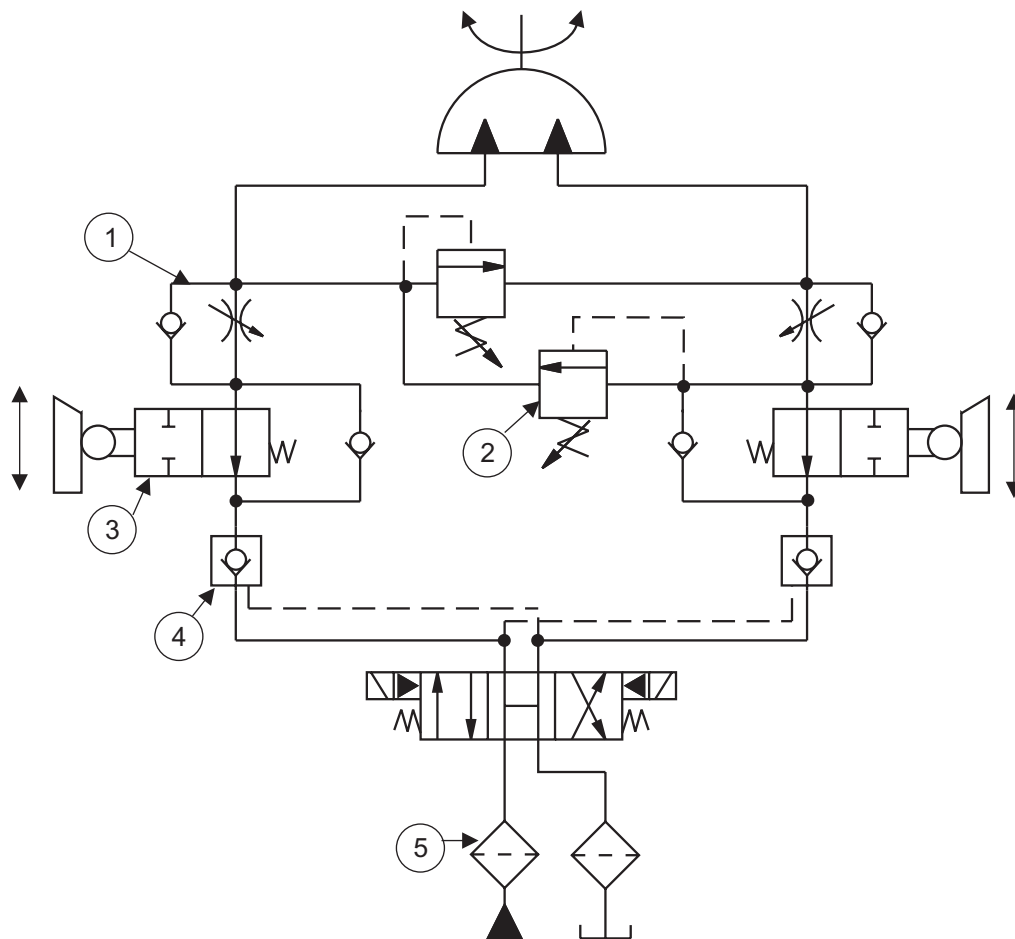

Figure 17 Hydraulic rotary actuator circuit
Figure 17 is a composite drawing showing general recommendations for sample circuitry. It is intended as a guide only. Flow control valves (1) in the meter-out position provide controlled actuator velocity. Care should be taken if the load moves overcenter, as the combination of load and pump generated pressure may exceed the actuator rating.
All of the considerations from the composite hydraulic circuit (Fig. 17) are still relevant. Crossover relief valves (3) should be installed if there are uncontrolled sudden stops in mid-stroke, and caution should be exercised when running overcenter, running with high speeds, or moving high inertia loads. Filtration (4) is still a consideration, but the actuator requirements (ISO 17/14 class) are usually less demanding than the filtration requirements of today's electrohydraulic control valves.